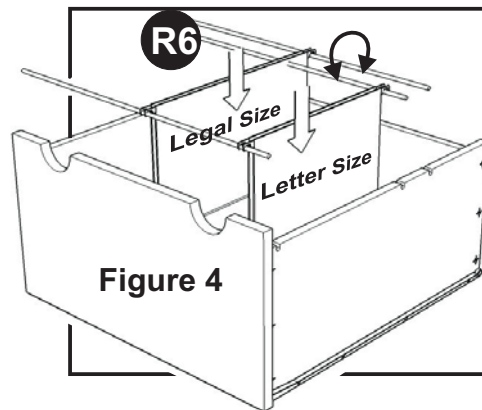

Figure 4
Place Pencil Tray (P) into position. (see Figure 4)